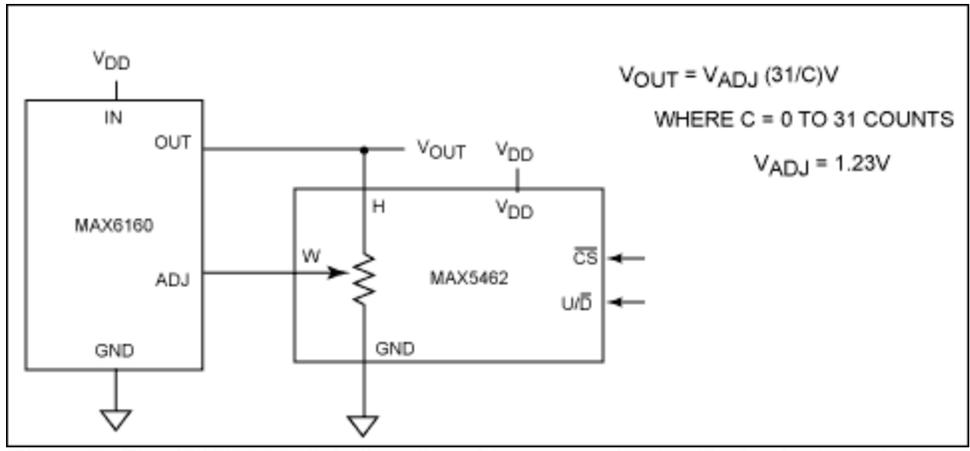
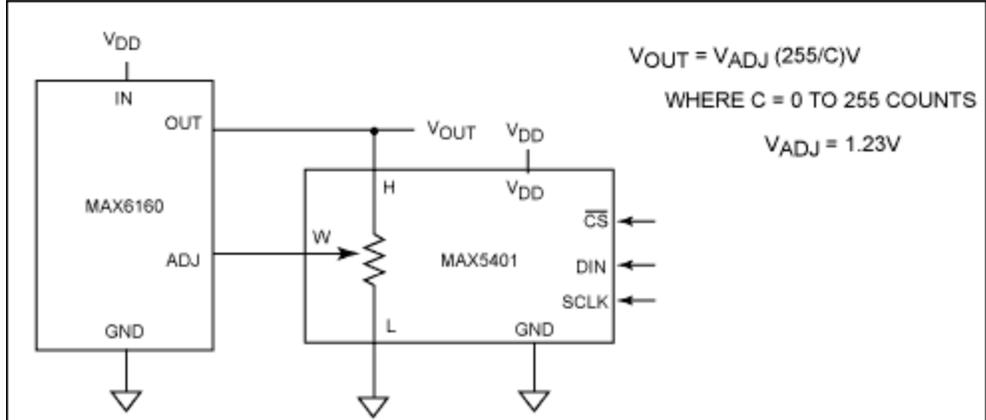

Figure 2. The MAX6160 digitally adjustable output circuit with the MAX5462 32-tap digital pot.
Figure 3. The MAX6160 digitally adjustable output circuit with the MAX5401 256-tap digital pot.
**Figure 2** combines the MAX6160 with the MAX5462 (a 100kΩ, 32-tap digital pot). This circuit is capable of digitally adjusting the output over the range from 1.23V to 5.3V. The ADJ pin voltage limits the minimum output voltage, and the supply voltage for the MAX5462 and the MAX6160 dropout voltage limit the maximum output voltage. This circuit is useful when the voltage reference needs to be programmed in the field to different levels and absolute accuracy is not critical but low drift is required.
The same topology can be used with the MAX5401 (a 100kΩ, 256-tap digital pot), shown in **Figure 3**, to increase the resolution by roughly an order of magnitude. This circuit is capable of setting the output voltage to within 0.6% of 2.048V, 0.8% of 2.50V, 1.3% of 4.096V, and 1.6% of 5.00V. It has the same benefits as the circuit in Figure 2 but with this increased resolution.